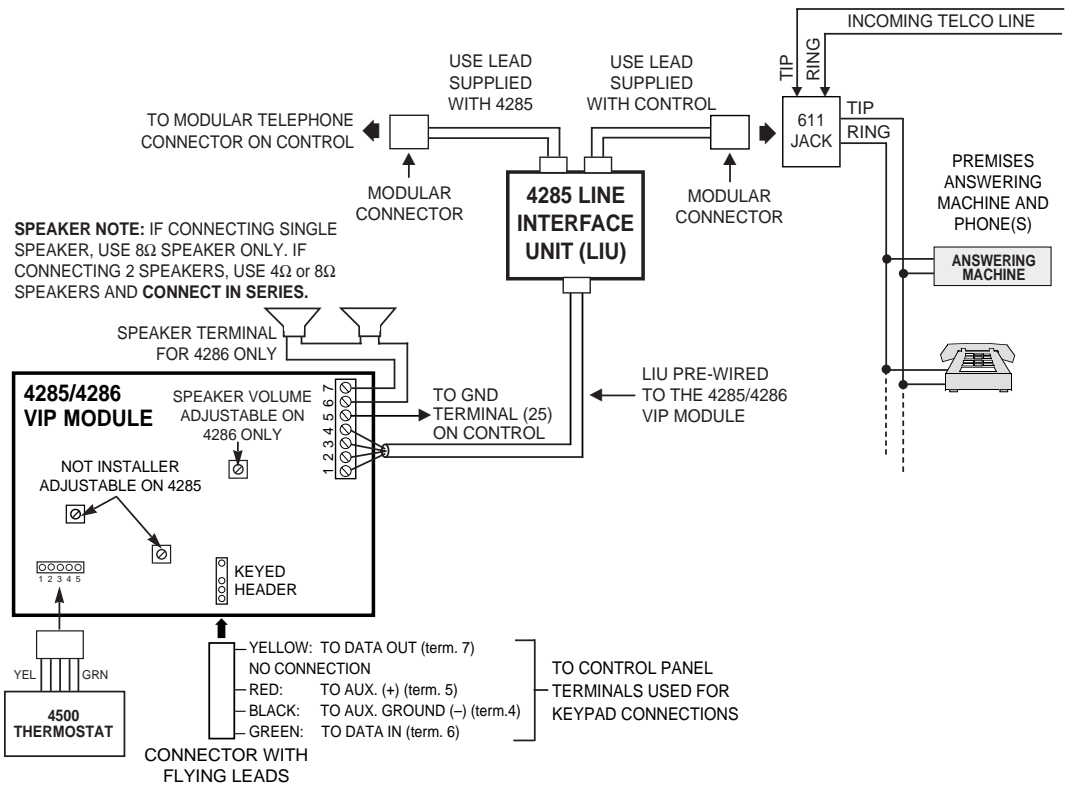

Figure 10. 4285/4286 VIP Module Wiring
1. Make 12V (+) and (-) and data in and data out connections from the 4285/4286 VIP Module to the control's keypad terminals, using the connector cable supplied with the VIP Module (see the Figure 10 that follows).
3. Use the modular phone lead supplied to connect to incoming telephone line (via 611 socket) to the 4285 Line Interface Unit (LIU) as shown in Figure 10.